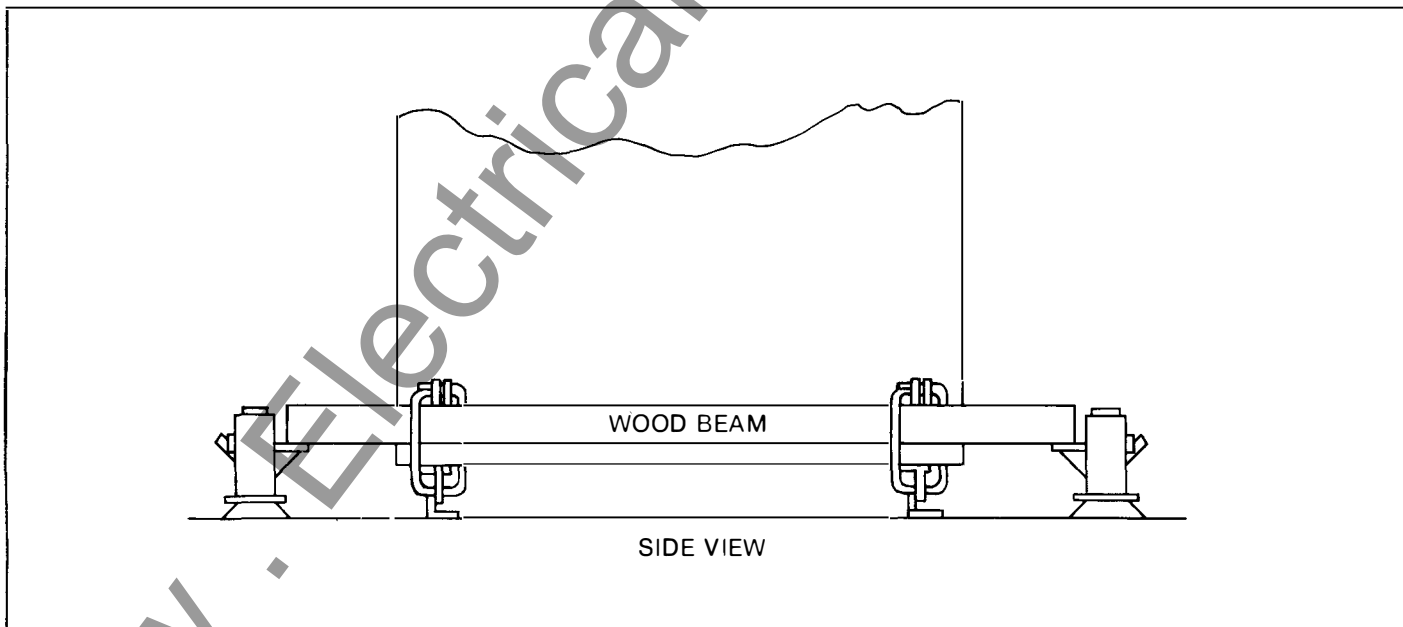

Fig. 2-9. Recommended method of jacking AKD-8 outdoor equipments
- Place a jack under the front and rear corners of one end of the line-up. Figures 2-9 and 2-10 illustrate the use of jacks with outdoor equipment.